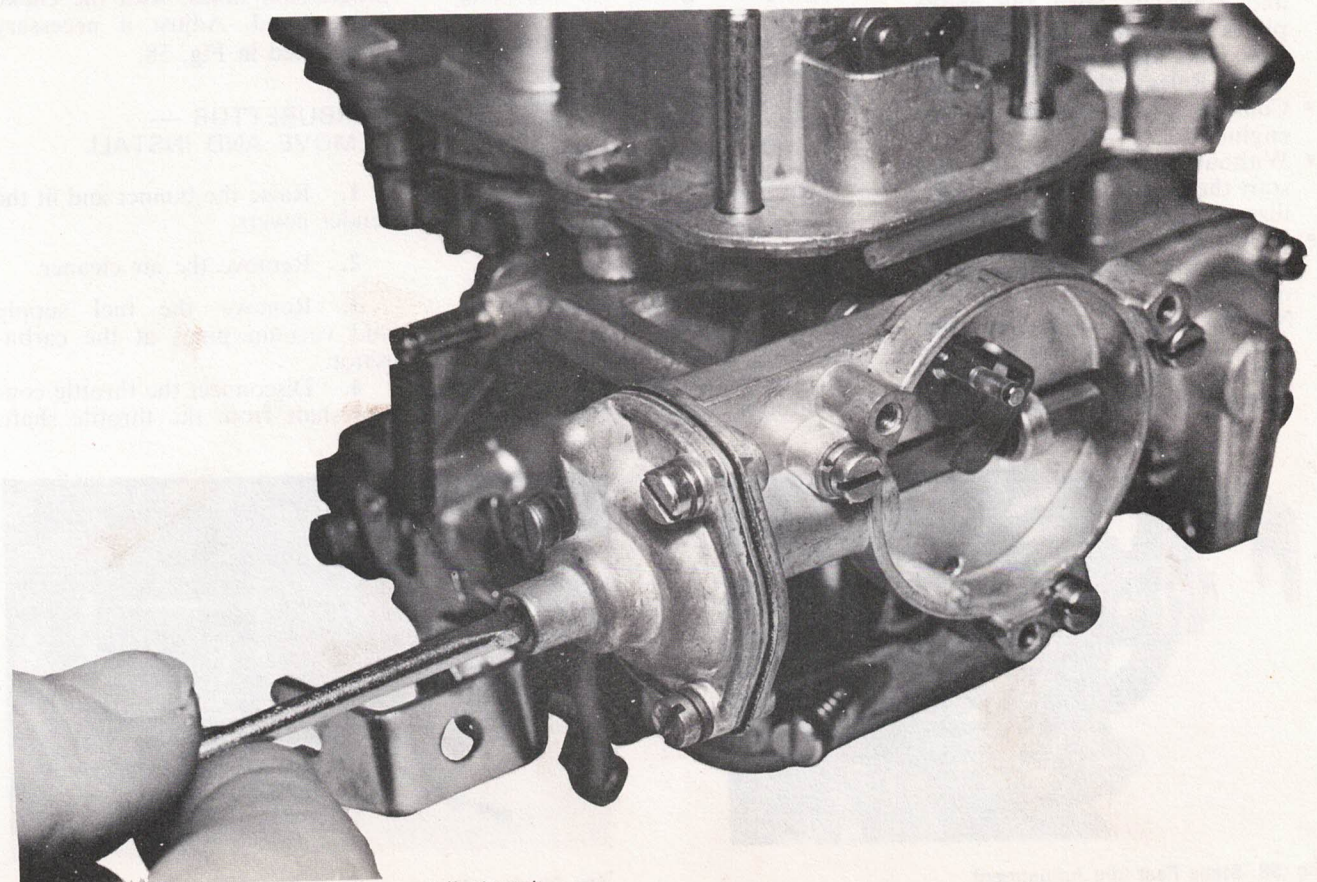

Fig. 56. Choke Plate to Body Clearance Adjustment
7. Remove the brass screwed plug from the diaphragm housing and turn the adjusting screw clockwise to decrease and anti-clockwise to increase the choke plate to body clearance (Fig. 56).